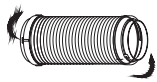
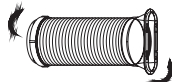

Fig. 16
Fig. 17
1. Install the window Exhaust adaptor B onto the exhaust hose as shown in Fig.16. or Fig.17. Refer to the previous pages for window kit installation.